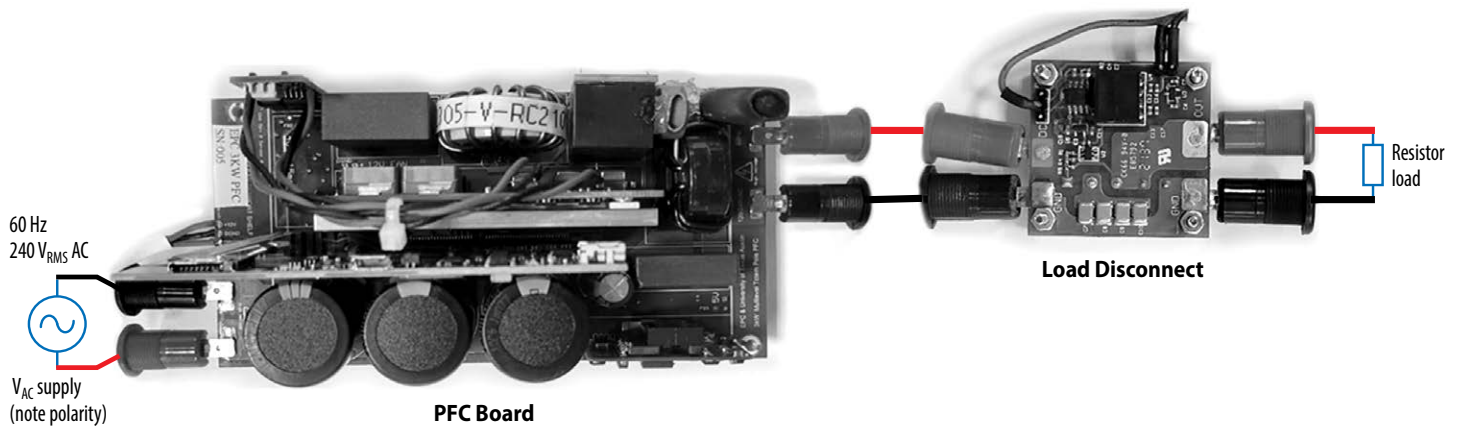

Figure 3: Test Setup and Procedure for PFC Board showing the supply and load connections
2. Connect PFC board to the Load Disconnect Board. See figure 3.
3. With power off, connect the line voltage of the AC Source (60 Hz, 240 VAC) to red and neutral voltage of AC source to black, as shown in figure 3.
4. With power off, connect the resistor load bank to the Load disconnect board, as shown in figure 3.
1. See figure 3 for setup connections.